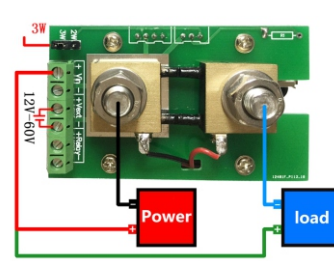

Figure 2 Three-wire relay wiring diagram is not connected
- To carry out the wiring is in accordance with wiring diagram shown in Figure 2. The positive pole of VIN + terminal and the load are connected to the positive pole of power supply; negative pole of power supply is connected to left large screw of shunt on the measuring board, and negative pole of the load is connected to right large screw of the shunt, at the same time put jumpers on "3W" place. At this time, Vext needs to an external power supply to power up the meter, and the external power supply voltage is DC10V - 30V. Please note that wiring should be in accordance with the wiring schematic, do not connected reversely or wrong.